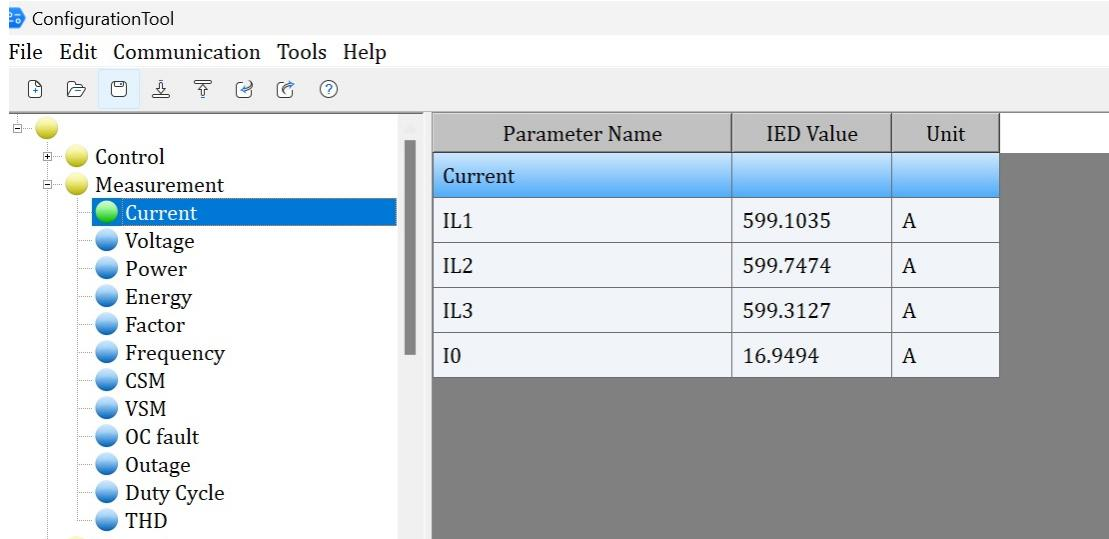

Figure 26 Measurement values on configuration tool
4. Click the “Measurement” and values window will popup. (Figure 26)